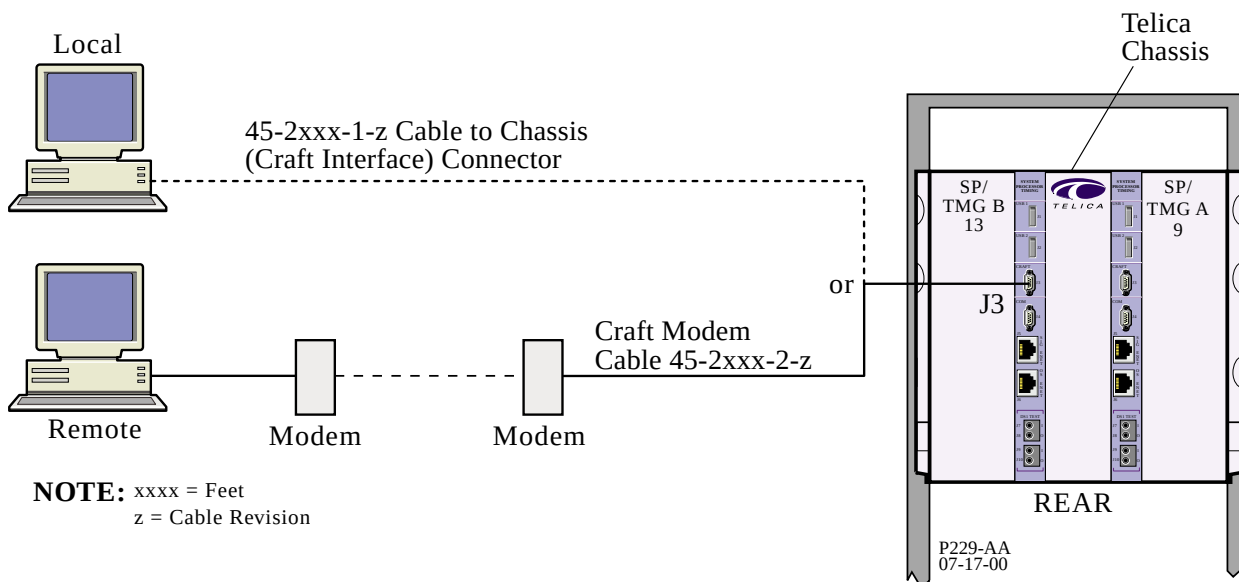

**Figure 3. Cabling to the Rear SP for Craft Terminal**
7. Attach your craft cable to the DB9 port labeled craft (J3) on the rear SP/TMG card, as illustrated in Figure 3.